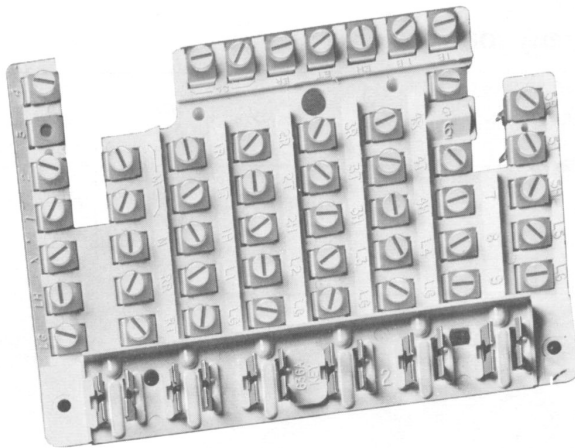

Fig. 6—636A Key, Top View
2.11 The 636A key (Fig. 6 and 7) used in these sets provides hold and five line pickups. The last three pickup keys may be converted to common or private line signaling.